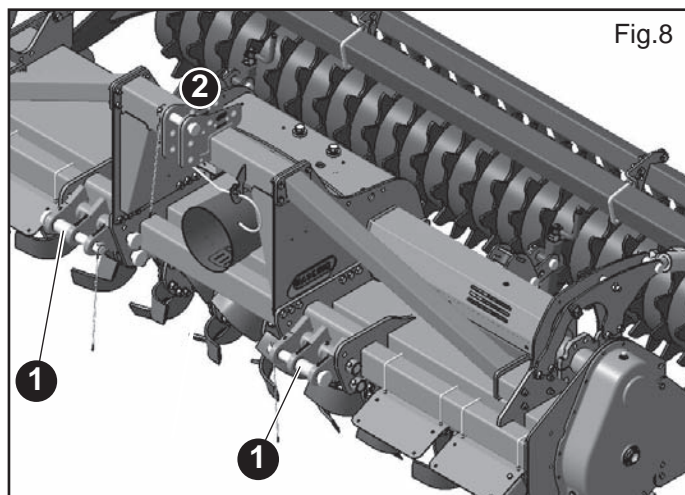
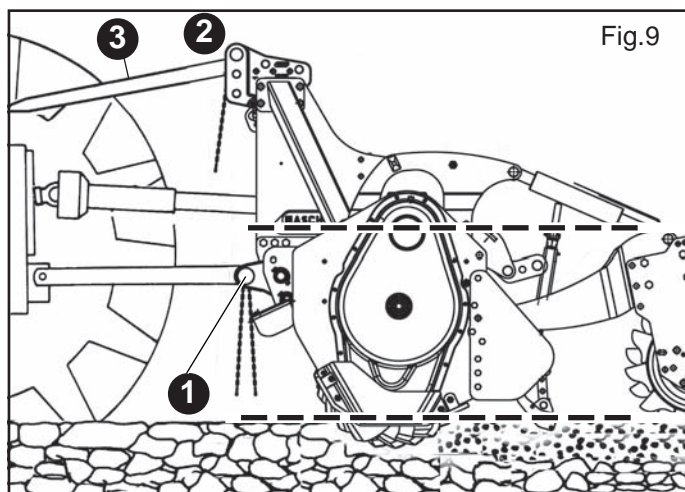

Fig.8
Fig.9
- 1) Hook the lifter bars onto the pins provided (1, Fig.8, Fig.9)
- 2) Connect the third upper point (2, Fig.9); the pin will be blocked with the appropriate split pin; use the adjusting tierod (3, Fig. 8) to keep the machine perpendicular to the ground (Fig.9)